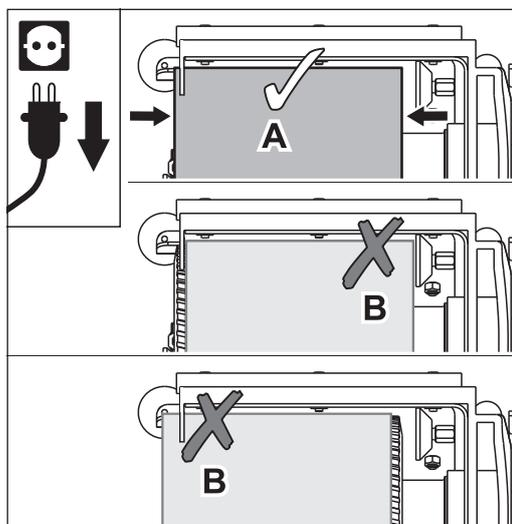

Fig. 10 Position the sanding belt so that it evenly covers the sanding drum (A). Avoid position B without fail (FIRE DANGER)! Similar to figure.
- 10 Position the sanding belt so that it evenly covers the sanding drum (Fig. 10, A).
**Position B of the sanding belt in Fig. 10 provoke sparking during sanding! Avoid this without fail!**